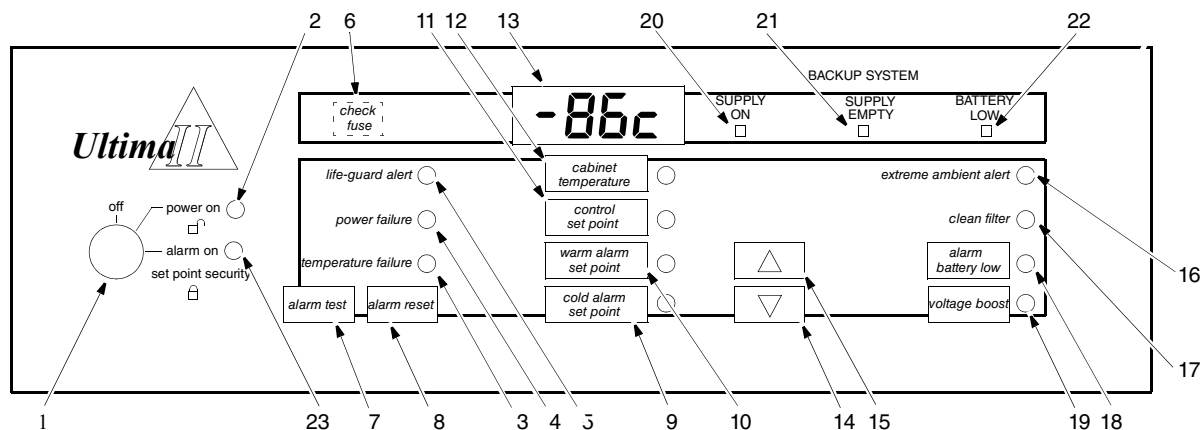

Figure 2. Revco Ultima II Series Control Panel with Optional Backup System
Before the initial start up, take some time to become familiar with the controls on your freezer. Figure 2 illustrates the Revco Ultima II Chest and Upright Freezer control panel.
Note: *Figure 2 shows all possible functions. These functions vary depending on the model and options. You may not have all of the functions on your equipment. Revco Elite models do not include the Check Fuse indicator light (6) or the Voltage Boost light (19) as these models do not come standard with these options. Likewise, **only** Revco Ultima II models will include the Set Point Security feature (23), Life-Guard Alert indicator light (5), and the Extreme Ambient Alert indicator light (16). The CO₂ or LN₂ Backup System lights (20, 21, 22) represent status indicators for a built-in CO₂ or LN₂ backup system, which is optional on Revco Ultima II and Elite models.*
Refer to Section 6.1 and Figure 2 on page 4 as you complete the following procedures.